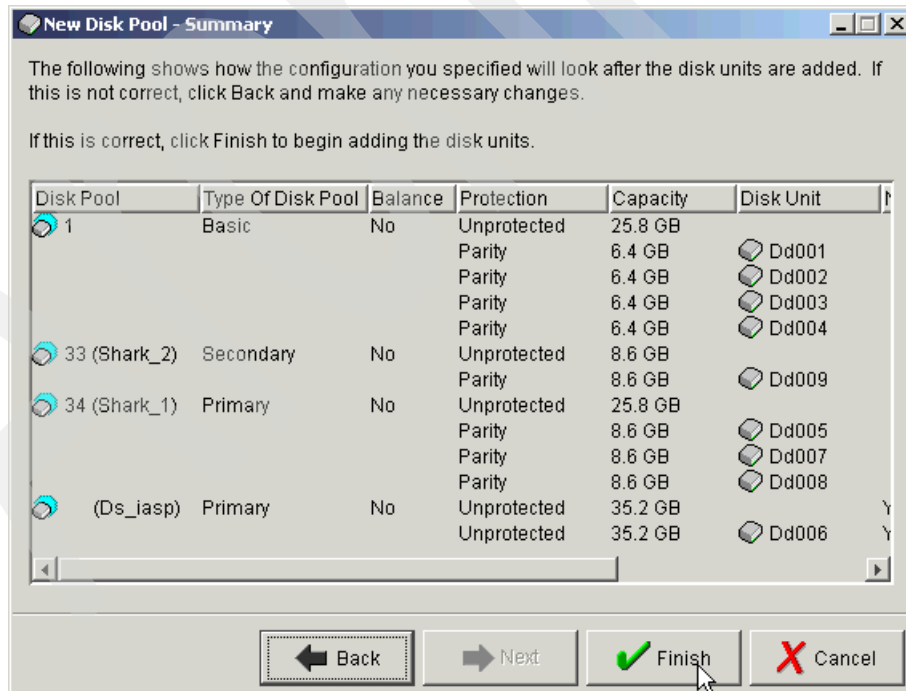

Figure 5-32 New Disk Pool - Summary window
11. In the New Disk Pool - Summary window, review the summary of the configuration. Click **Finish** to add the disks to the disk pool, as shown in Figure 5-32.